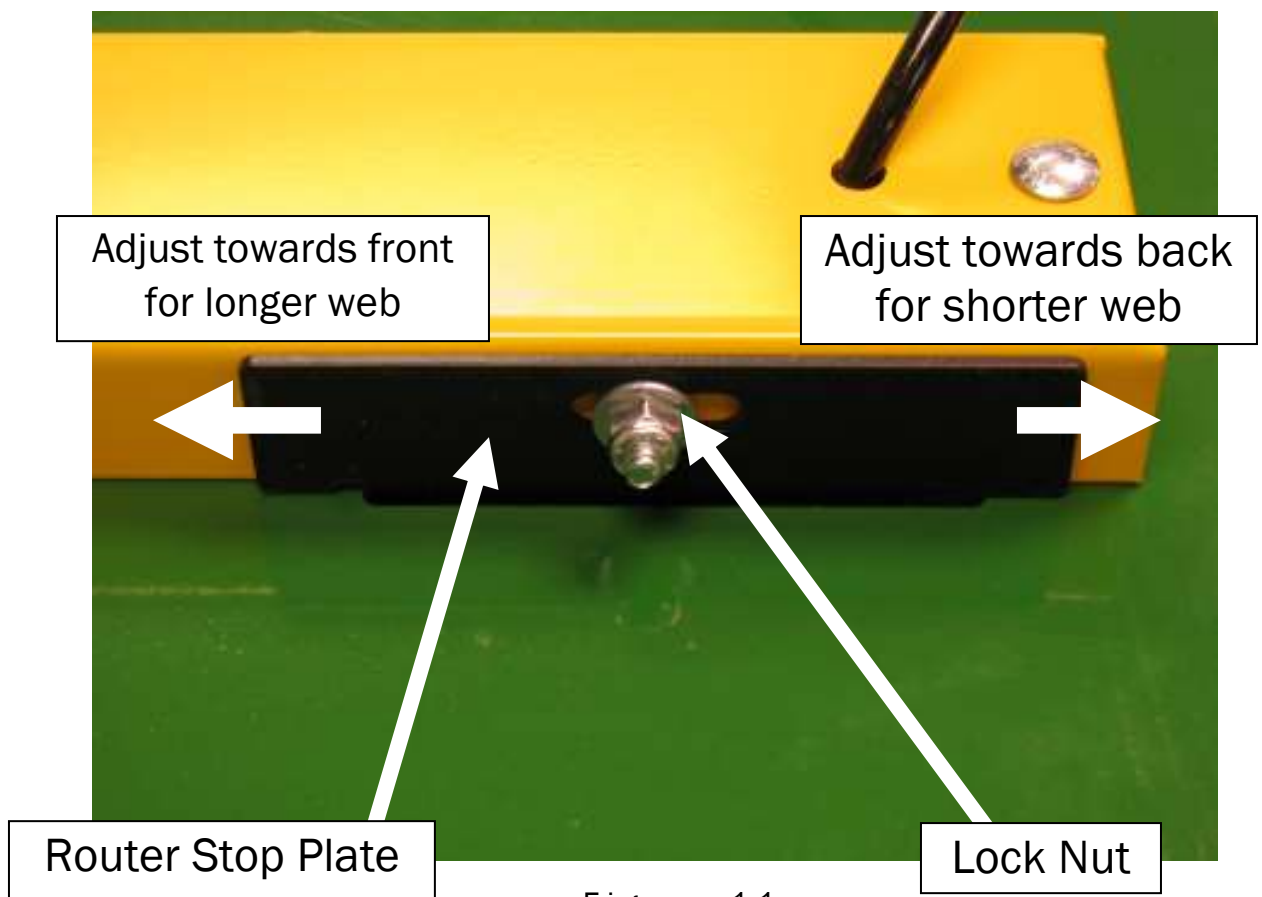

Figure 11
1. The Router Stop Plate is a black bracket found on the right side of the yellow Clamp Guard. It is held in place by a $\frac{1}{4}$ ” lock nut. **See fig. 11.**